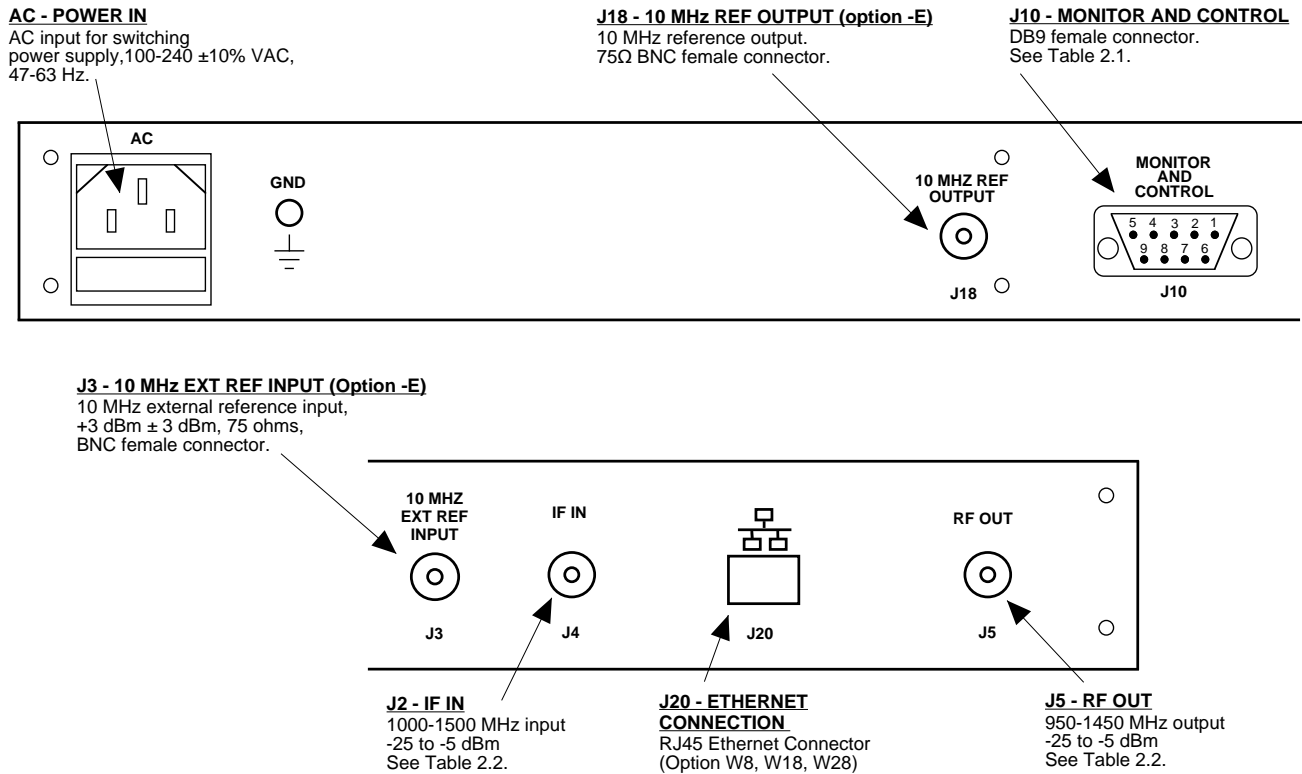

FIGURE 2.2 2083-1010 Rear Panel I/Os
2.2 Rear Panel Input/Output Signals - Figure 2.2 shows the input and output connectors on the rear panel.
1. Connect a -25 dBm to -5 dBm signal to IF IN, J4 (Figure 2.2)